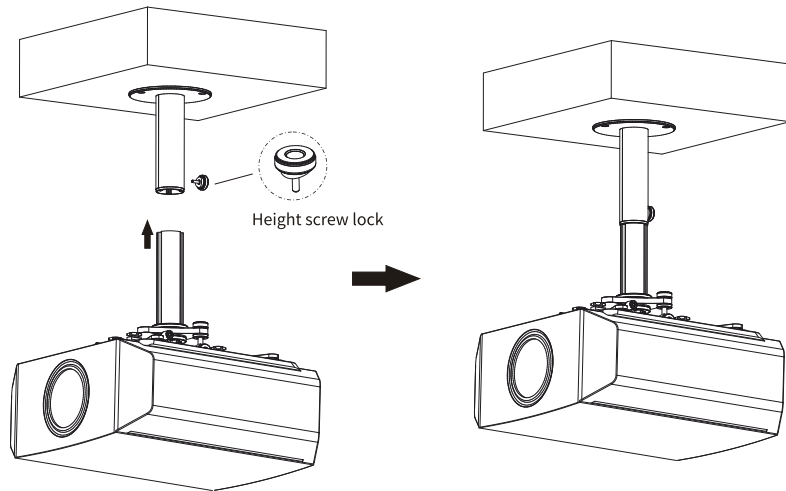

Figure 6
6. After the projector is installed, insert the whole part into the main pole through the vice pole, as shown in Figure 6; embed it into the main pole with a height screw lock, and tighten it to fix it. The installation is complete.